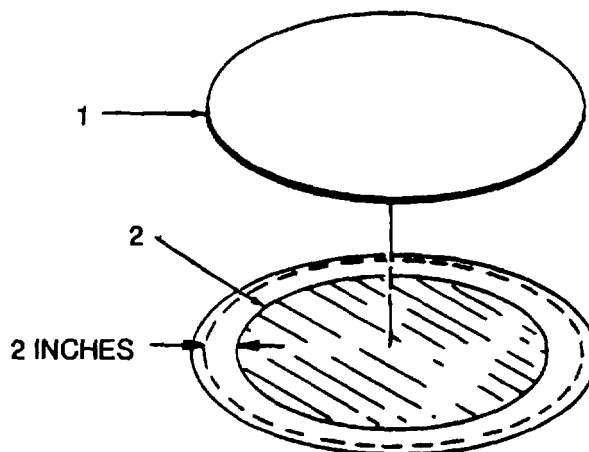

Figure 2-28. Fabric Cutting, Overlap Damaged Area
(e) Cut fabric reinforcing patch (1, figure 2-28) from nylon fabric (item 7, table 2-11) large enough to overlap damaged area (2), 2 inches in all directions.
(e) Cut fabric reinforcing patch (1, figure 2-28) from nylon fabric (item 7, table 2-11) large enough to overlap damaged area (1) 2 inches in all directions.